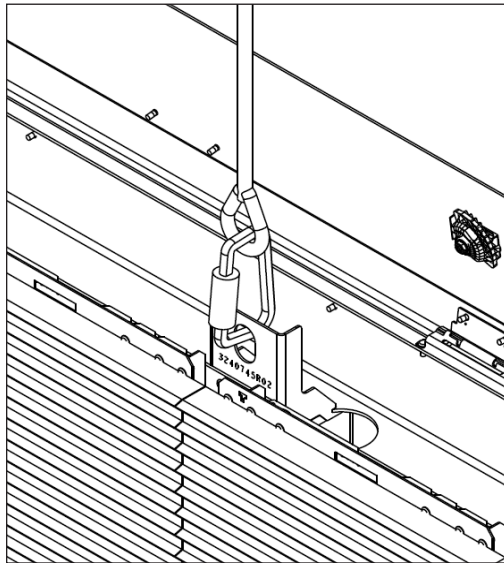

Figure 50: Lift Lug
3. Clip one end of the module pan safety lanyard (HS-2057) supplied in the toolkit to the closest lift lug in the top perimeter and the other end into the SATA cable pass-through hole of the module pan in need of service. Refer to **Figure 50** and **Figure 51**.